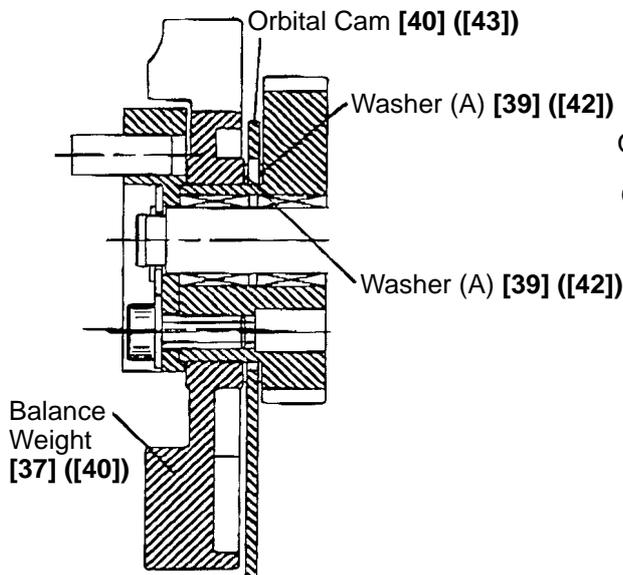

Fig. 15
(3) Carefully ensure that two Washers (A) [39] ([42]), the Orbital Cam [40] ([43]), and the Balance Weights [37] ([40]) are assembled as shown in Fig. 15.